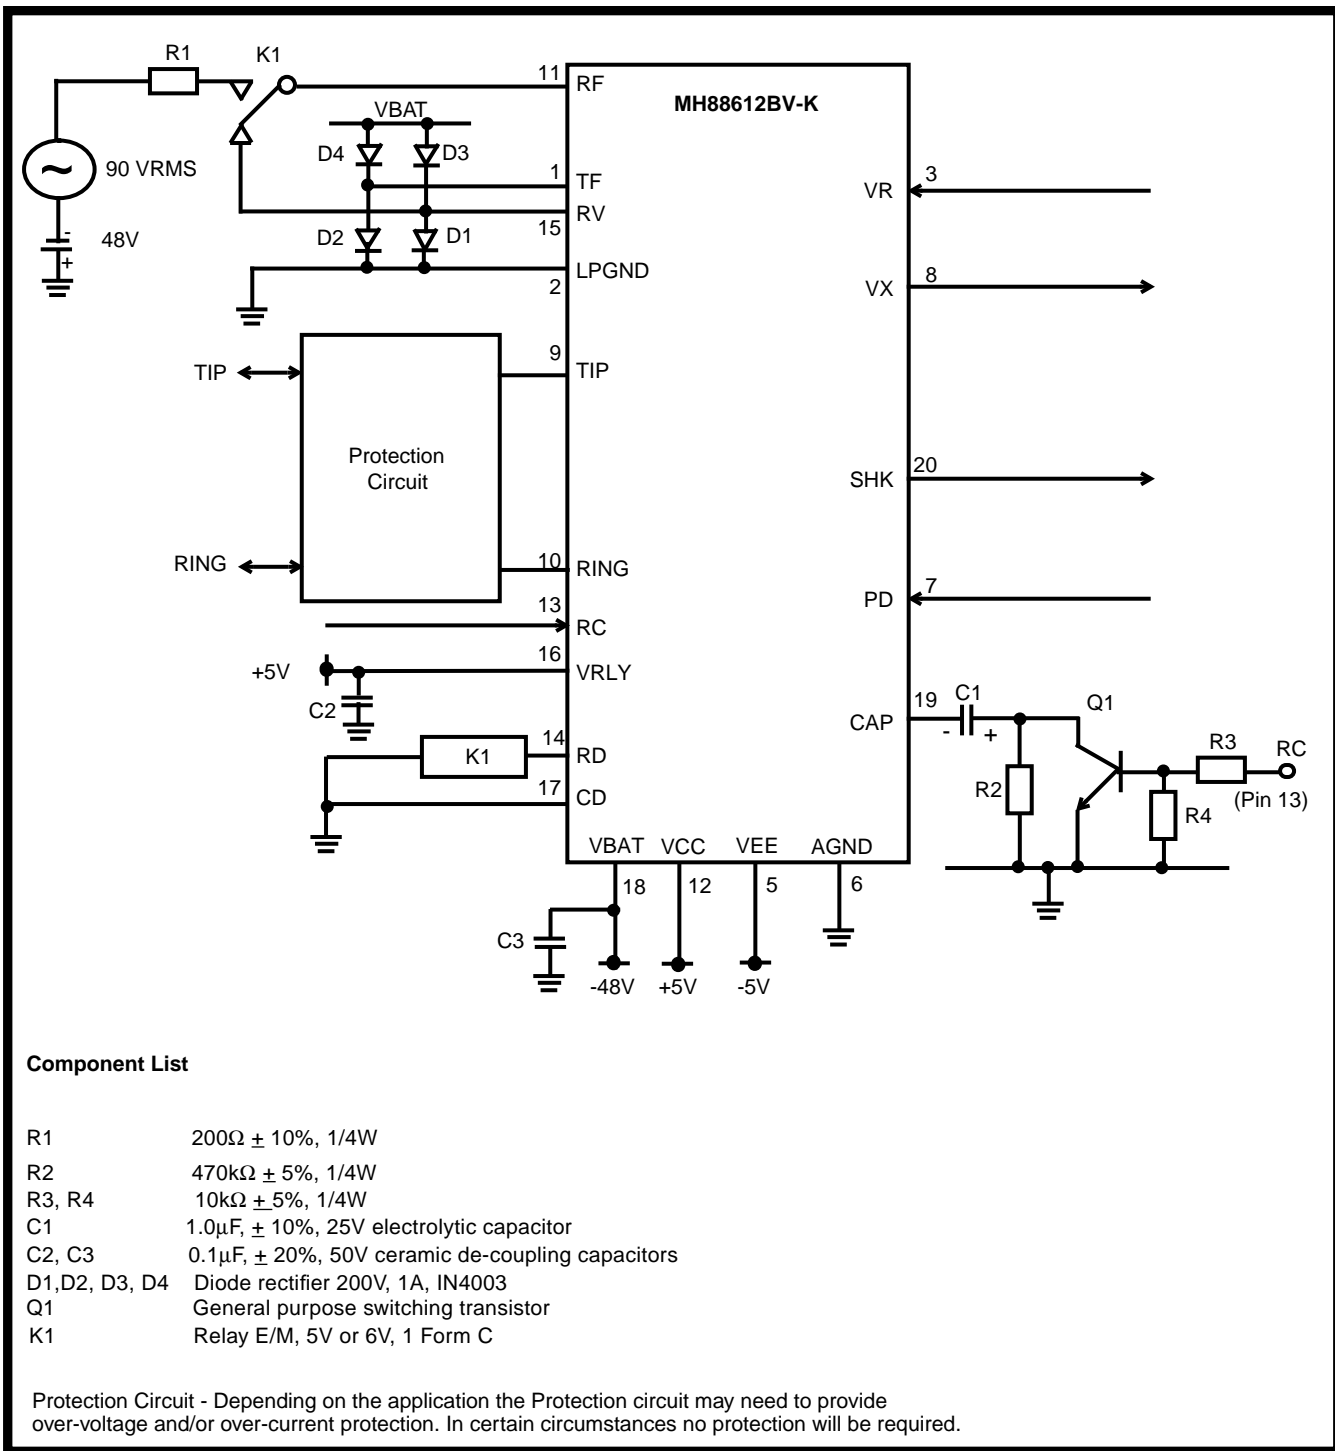

Figure 3 - Typical Application Circuit
In Figure 3 a ringing signal (e.g.90 Vrms and -48Vdc) is applied to the line by disconnecting pin 15 (RV) from pin 11(RF), and connecting the ringing voltage at pin 11 (RF) by use of the relay K1.
During off-hook conditions (closed loop), the capacitor (C1) should not have a low impedance path to ground. This can be done using a transistor (Q1) and resistor (R2) as shown in Figure 3 with R2 providing a high impedance path for C1. When ringing is applied (RC = 5V) the transistor will short circuit R2 which will give C1 a low impedance path to ground and provide the required filtering.